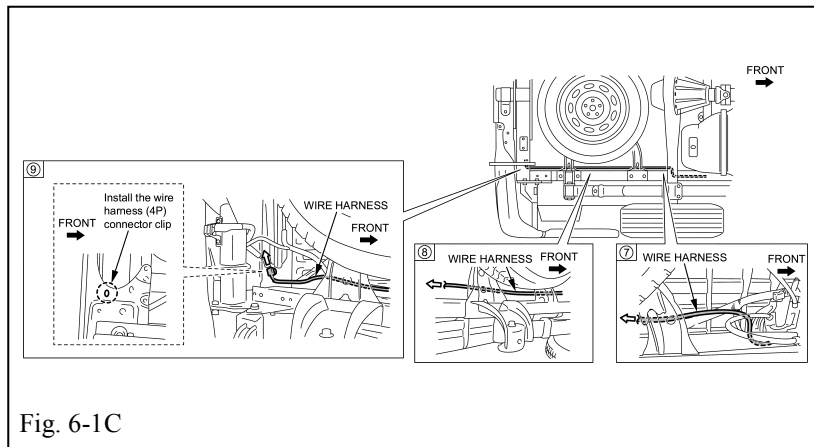

Fig. 6-1C
- ⚠ (2) Install the wire harness 4-pin connector clip to the position shown in the figure. (Fig. 6-1C)